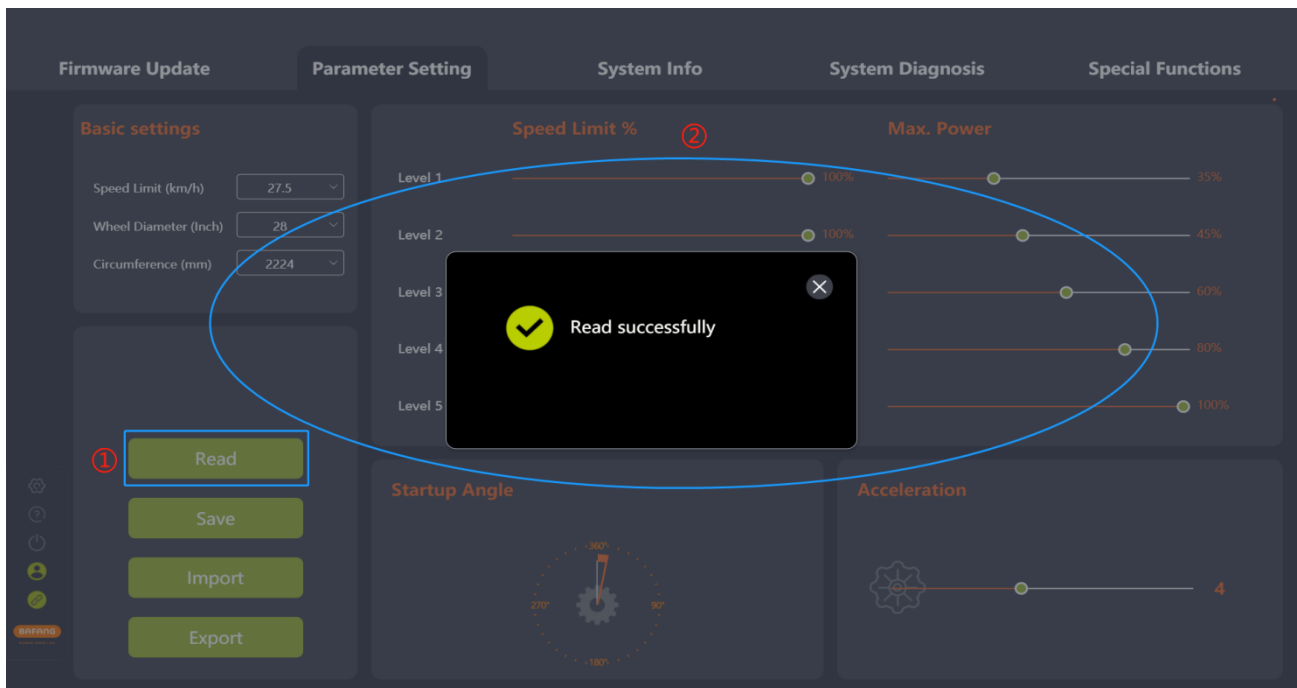

Fig. 5-4 Read
- (1) Confirm that the BESST Tool is connected properly to the controller. Click the "Read" icon.
- (2) Each parameter in the interface is displayed as a number and slider (Fig.5-4).